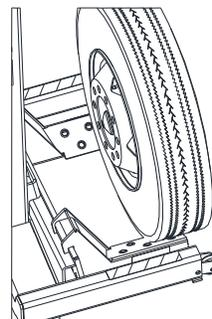

Figure 1. Tire Engagement
- Position the lift units at opposite ends of the same axle. If necessary, adjust the carriage lift arms (see Section 8) until they are wide enough to allow the lift pads to clear the tire tread. Make sure the lift pads cradle the tires evenly and are aligned with the tire. Position the lift pads under the tire so the entire lift pad is under the tire (see Figure 1). **WARNING!** *The carriage lift arms must be positioned so they are centered on the lift carriage. NEVER use the lift unit with the lift arms positioned in an off-center position since this can cause dangerous side loading of the lift unit.*